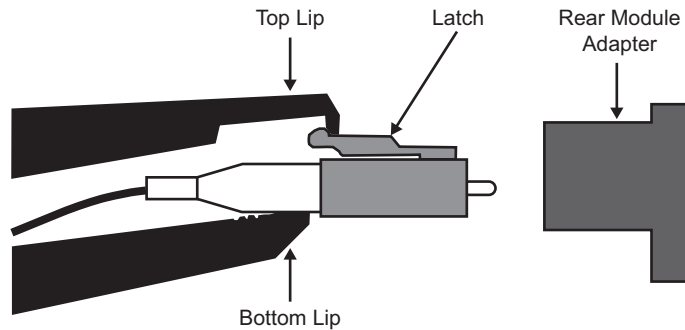

Figure 2.5 Positioning the Optic Cable Tool — Single-Latch Connector
2. Position the bottom lip of the Optic Cable Tool on the connector boot, ensuring that the top lip makes contact just behind the notch at the end of the latch. (**Figure 2.5**)